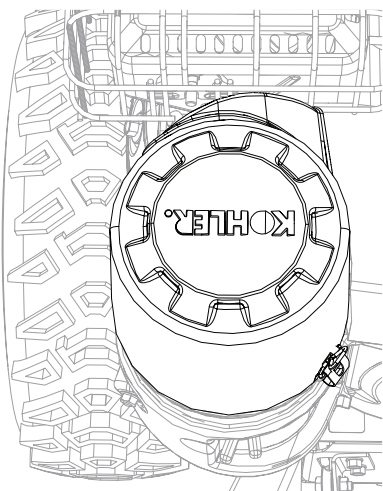

Figure 16
2. Rotate cover to the cold-weather/winter position or summer position. See Figure 16.